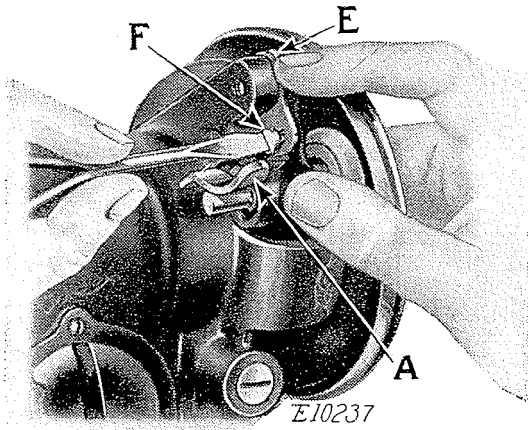

FIG. 6. ADJUSTMENT OF BOBBIN WINDER
If the pressure of the bobbin winder pulley against the hub of the balance wheel is insufficient for winding the bobbin, press down the bobbin winder until the latch (A) drops and holds it, then loosen the adjusting screw (F). With the forefinger, push back the upper end of the slotted plate (E) as far as it will go, as shown in Fig. 6, and at the same time press the bobbin winder pulley against the hub of the balance wheel, then tighten the adjusting screw (F).